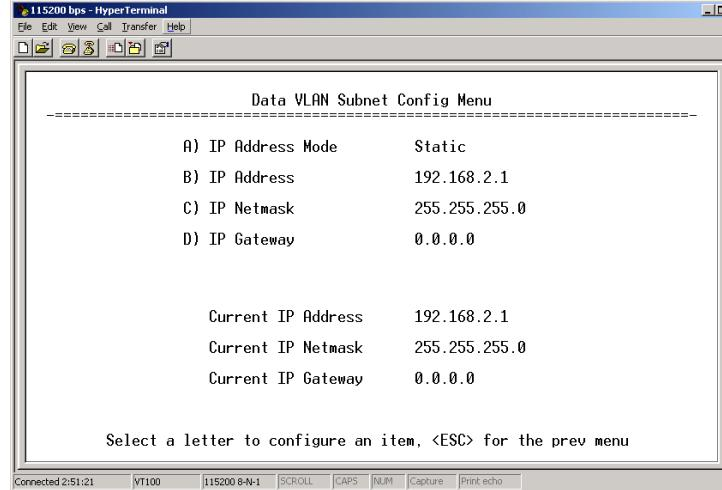

Figure 3-19. Data VLAN Subnet Configuration Menu
- **Data VLAN Subnet Config**—Presents a screen where you can view or set the IP mode and address information (see Figure 3-19 on Page 52).
Selecting option I from the VLAN Configuration Menu displays the screen shown in Figure 3-19 on Page 52. Note that the IP address is different even though it is the same physical unit. This is because this IP address is defined for a different VLAN.